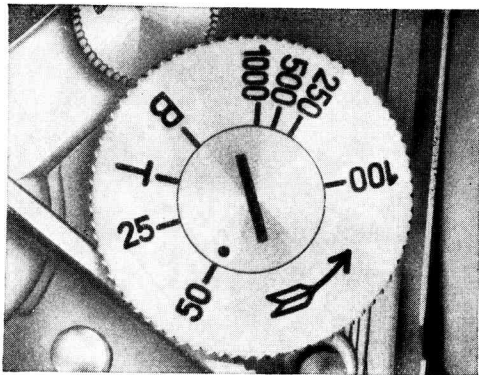

Fig. 10
The EXAKTA VX has a high precision focal-plane shutter. In order to study its working, observe the camera opened from behind. When removing the lens (see Section D, page 13), you will, on releasing, see the mirror swinging-up under the finder-hood, that no stray light may get into the interior of the camera. The ground-glass image, therefore, is not visible, unless after picture taking the shutter has been wound again. The focal-plane shutter of the EXAKTA VX is remarkable by its great variety of exposure. With the fast speed knob (8) (Fig. 10) the exposures of $1/1000$